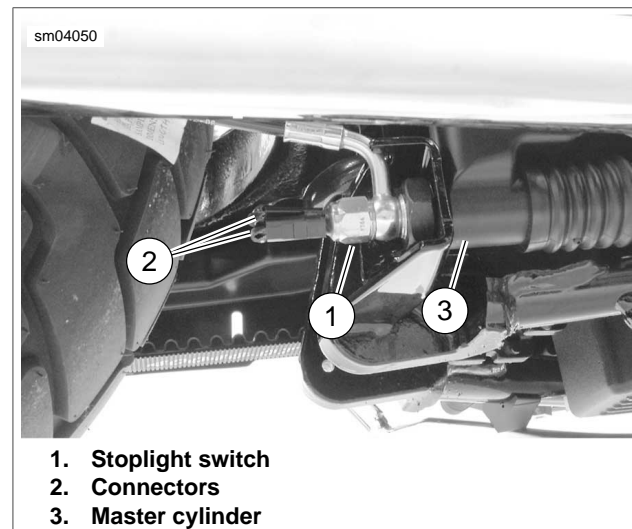

Figure 8-64. Rear Stoplight Switch
See Figure 8-64. The rear stoplight switch monitors brake fluid pressure in the rear brake line. When pressure in the line reaches a preset level, the rear stoplight switch is tripped and illuminates the tail light/stoplight.
1. See Figure 8-64. Remove both connectors (2) from rear stoplight switch (1).
2. See Figure 8-64. Install rear stoplight switch (1). Tighten switch to 12-15 ft-lbs (16.3-20.3 Nm).
3. Install switch connectors (2).